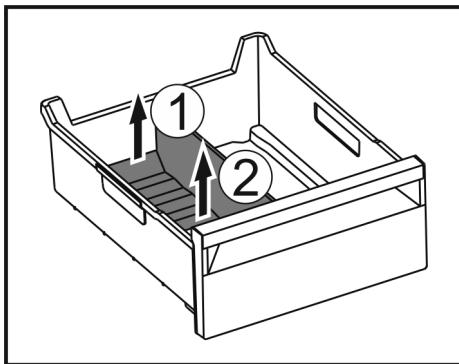

Fig. 149
- ▶ 提升冰格分隔器后部。Fig. 149 (1)
- ▶ 向上取出冰格分隔器。Fig. 149 (2)